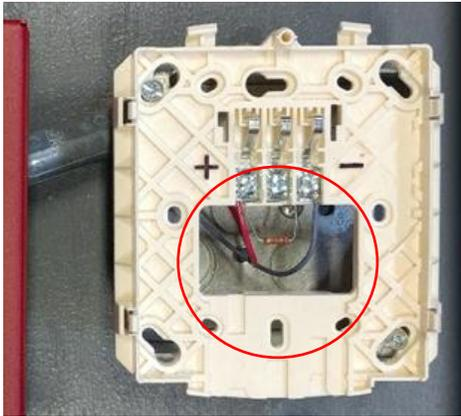

Figure 3
3. See **Figure 3**. Visually inspect Signal Horn base-plate connections. Locate positive and negative terminals on base-plate. **NOTE:** RED wire connects to positive terminal; GRAY wire connects to negative terminal.
4. See **Figure 3**. Locate **end-of-line resistor**; factory installed between positive and negative terminals on Signal Horn base-plate.